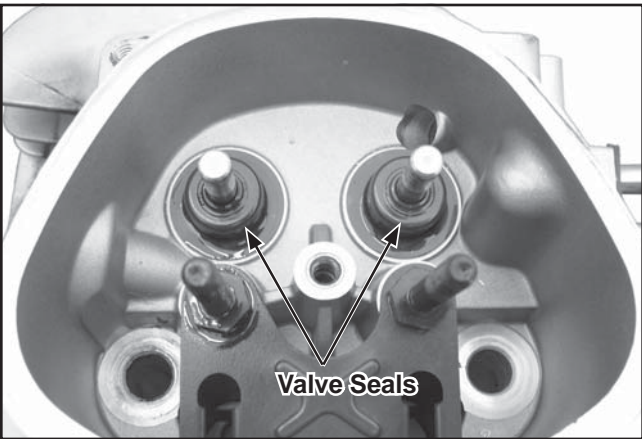

Figure 11-44. Valve Stem Seals.
2. Install new valve seals on the stem of the valves. See Figure 11-44.